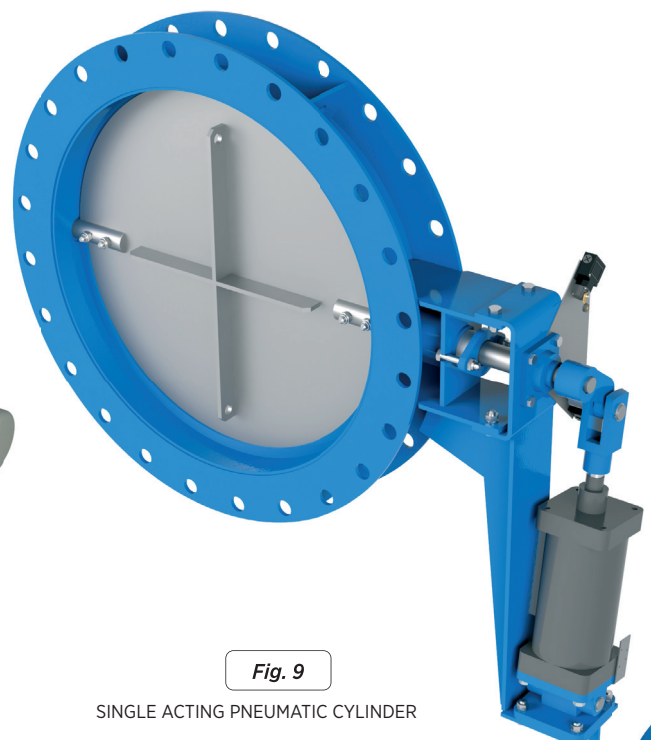

Fig. 9
- Linear pneumatic cylinders (fig. 9). This type of actuator is mounted on a rod on the actuator shaft in order to convert the linear movement generated by the cylinder into rotational movement and operate the swing check.